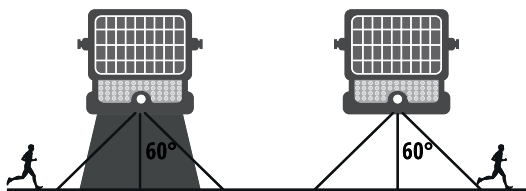

Fig. 8. The location of the power button.
**The sensor mode of operation is programmed so that the floodlight activates after dusk and deactivates during the dawn.** The sensor operating mode is activated by a white power button. This button is located under the panel of the LED module, and the place of its occurrence is distinguished by the green circle in Figure 8.